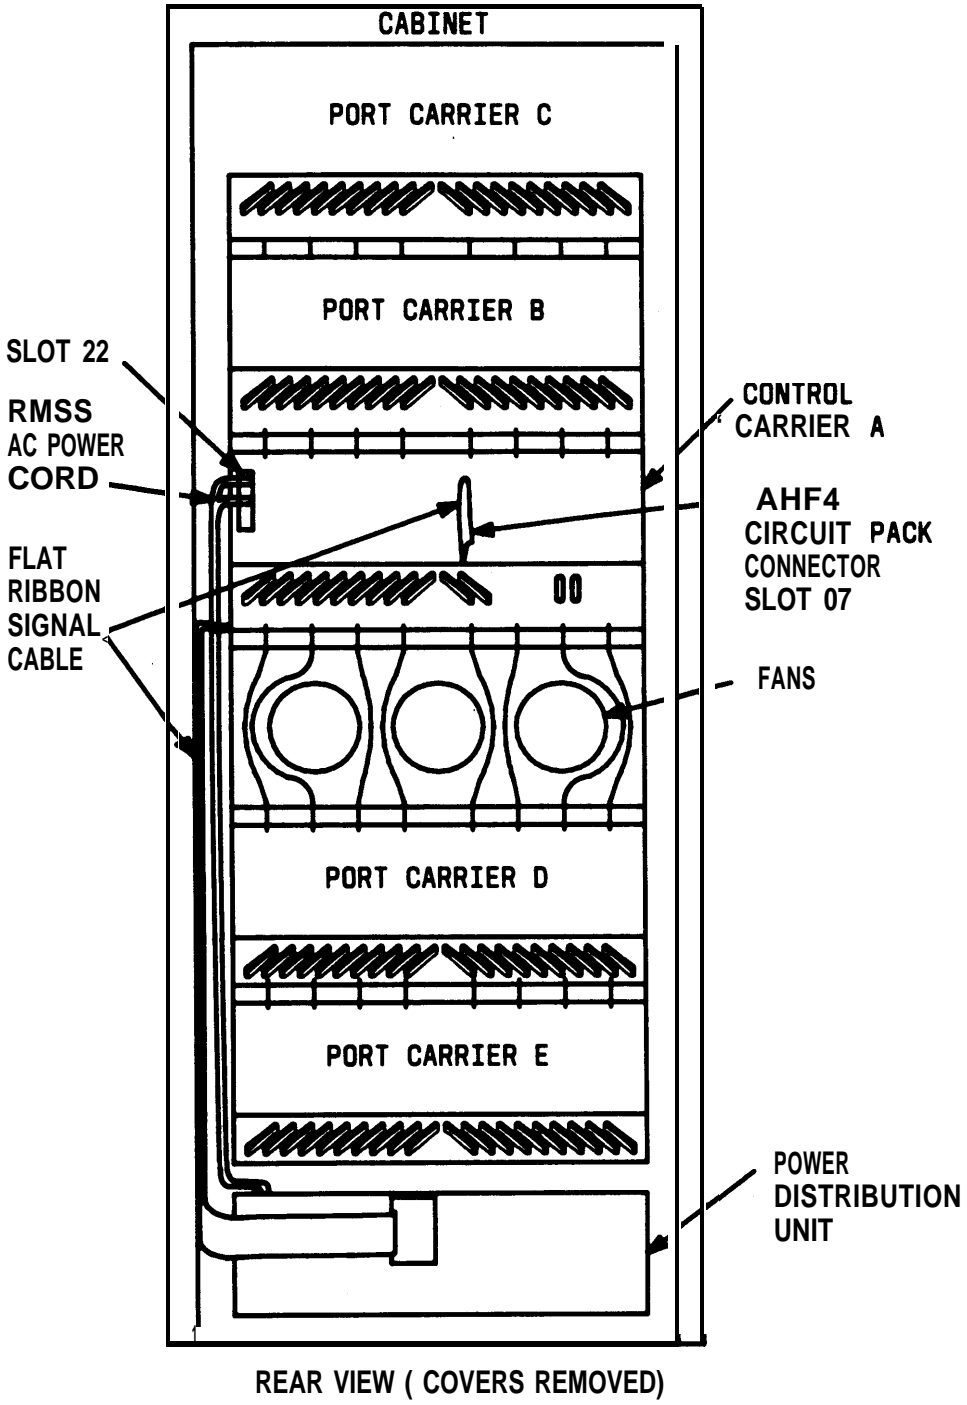

Figure 11. System Cabinet—Rear View, Covers Removed
10. At rear of control carrier, disconnect the HCMR flat ribbon signal cable from AHF4 circuit pack connector, slot 07 (Figure 11).
20. Connect RMSS ribbon signal cable between RMSS and AHF4 connector on rear of control carrier. The ribbon cable stripe (pin 1) always goes on top (Figure 11).
žAt rear of control carrier (Figure 11), connect “black wire” J2 connector to slot 22, pins 345, 346, and 347.